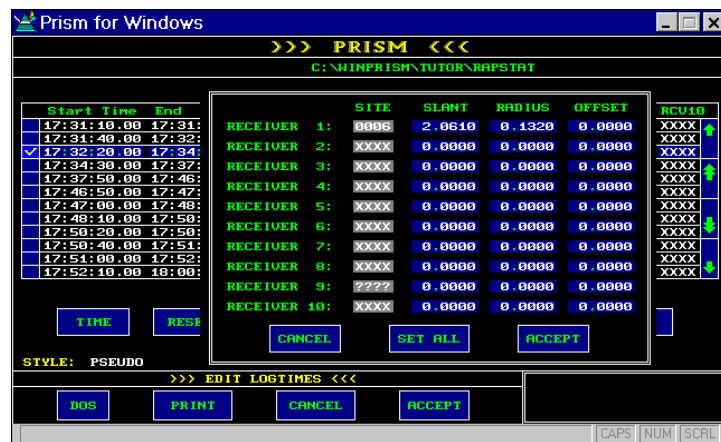

Figure 8.10: ANT button
- Set the same antenna height for each of the ten possible receivers for all sites and time intervals (Figure 8.10).